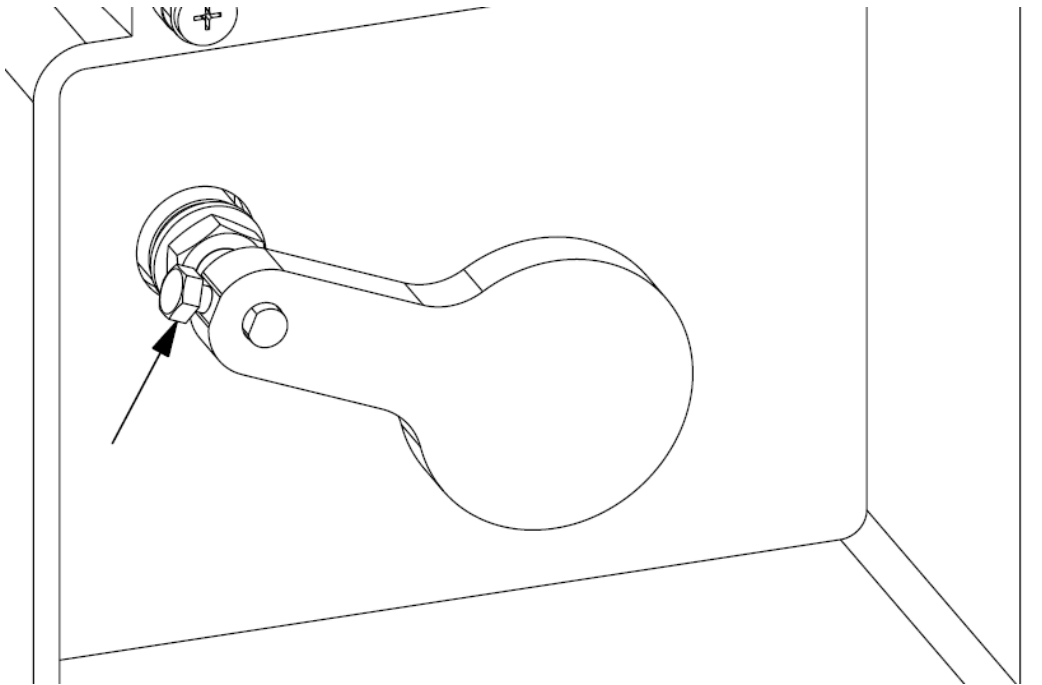

Figure 7-14: Counterweight and set screw removal
27. Install the counterweight set screw and secure it in place. Reference **Figure 7-14**.